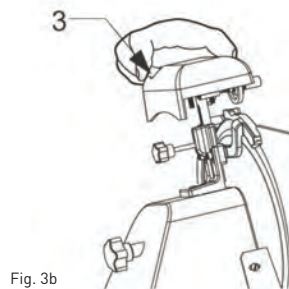

Fig. 3b
- switch-on the slicer by pushing the button "I" (ON);
- push the small button (3, Fig. 3b), let the blade rotate against the sharpener for 30/40 sec. to produce a sharp burr on the blade edge;